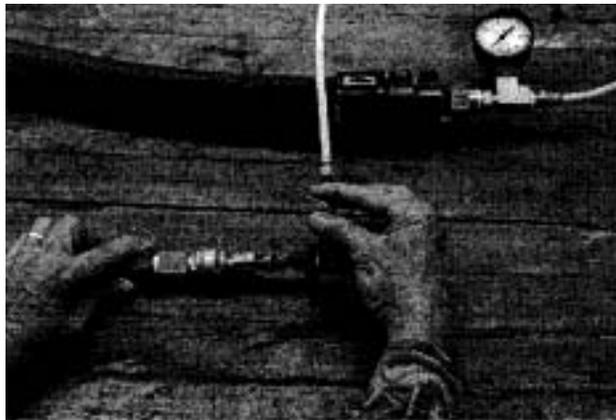

Figure 5—Apply vacuum.
- Open the needle valve slowly to apply a vacuum of 25 in-Hg (85 kPa) as read on the gage, then close the valve (see figure 5).